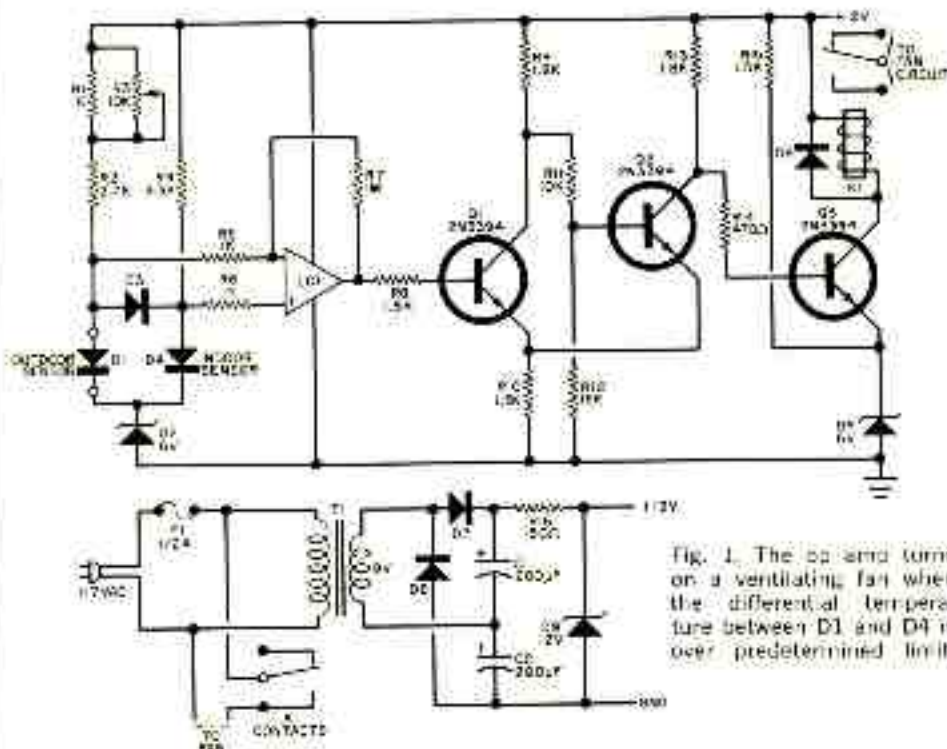

Fig. 1. The op amp turns on a ventilating fan when the differential temperature between D1 and D4 is over predetermined limit.
How It Works. The circuit used to detect the temperature difference is shown in Fig. 1. Essentially it consists of an operational amplifier (OA) whose output state is determined by the voltage drop across a pair of germanium temperature-sensing diodes, *D1* and *D2*. This voltage drop is dependent not only on the current flowing through the diodes but also on the ambient temperatures surrounding them. The integrated circuit is connected as a differential amplifier whose output is coupled to a Schmitt trigger consisting of *Q1* and *Q2*. The trigger circuit converts the relatively slow action of the output of the op amp (due to the slowly charging voltage across the diodes) to a fast acting switch. The trigger, although it is a form of multivibrator, does not change the frequency of operation. Since such a circuit is regenerative, its action is fast, and slow input signals become sharp, derivative outputs.